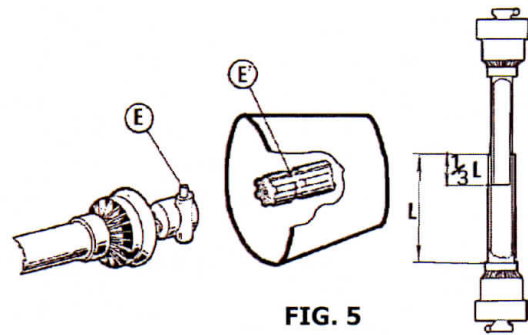

FIG. 5
- Make sure the button or ring nut "E" (FIG. 5) is correctly inserted and locked on both the pump and tractor sides.